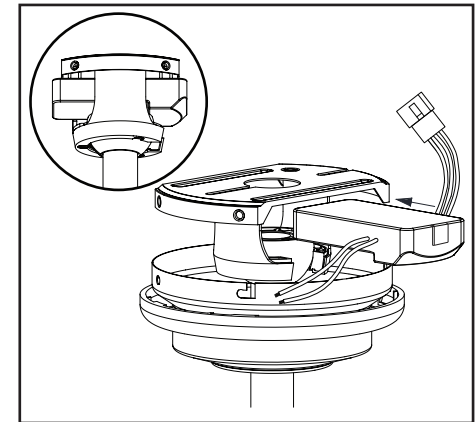

Figure 10
2. Insert the receiver into the slide-on mounting bracket until it rests on top of the ball/downrod assembly. (Figure 10)